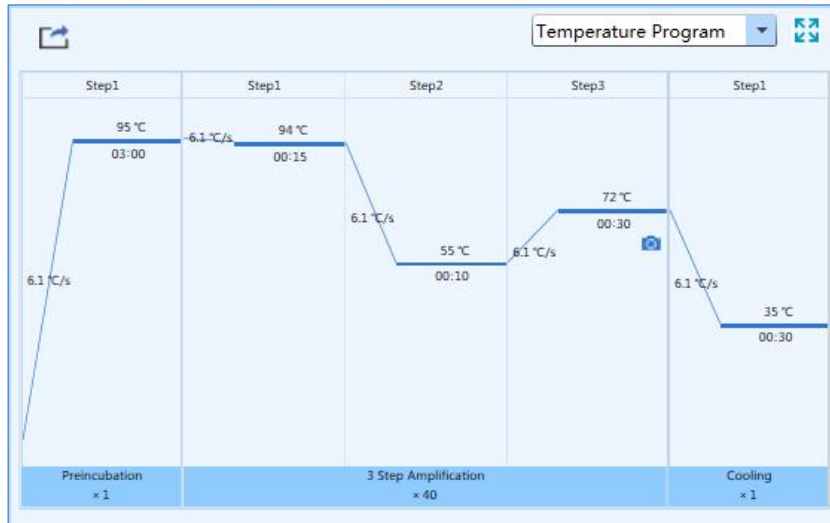

Figure D-7.2 Run Monitoring interface - Temperature Program function module
2. **Temperature Program**: display the temperature program of the current running experiment, as shown in figure D-7.2